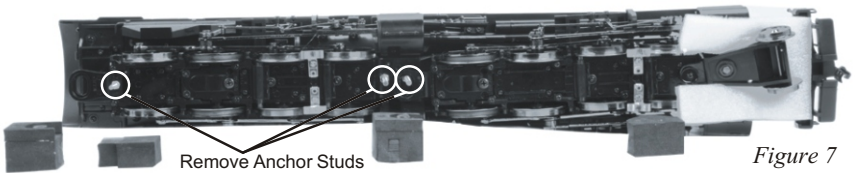

Figure 7
6. Remove the 4 foam packing pieces as shown in Fig. 7.
7. Remove the anchor studs from the bottom of the engine chassis. (Fig. 7) The anchor studs should be hand tight and be able to be moved by turning them with your fingers. However, if mechanical assistance is required to remove the anchor studs, using the adjustable pliers to grasp the anchor studs in the center section where the threads do not come in contact with the chassis or the locking nuts, will be helpful in removing the anchor studs.